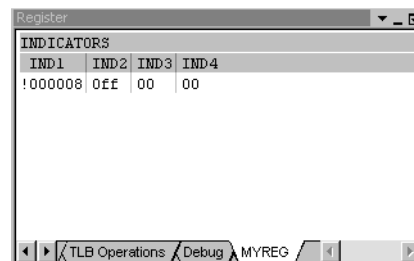

Figure 3-30 MYREG in the Register pane
3. Select **View** → **Pane Views** → **Registers** to view the new tab, **MYREG**, shown in Figure 3-30.